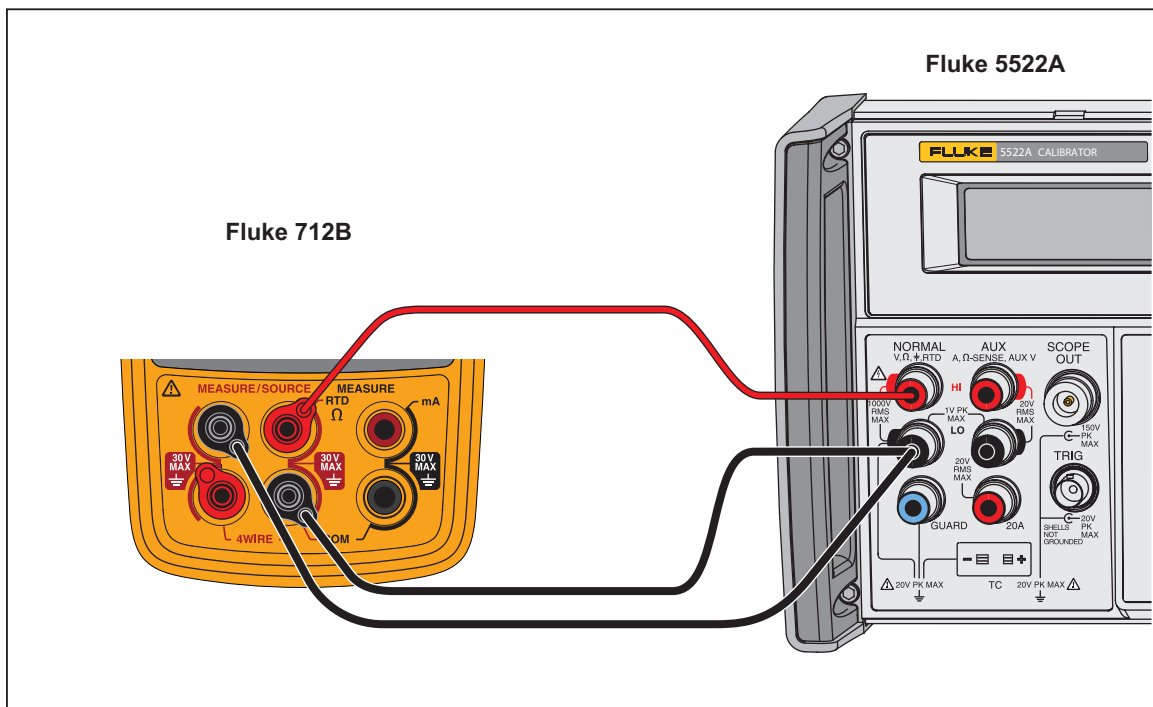

Figure 4. Verify 712B 3-Wire Ohms Measure
3. Make the connections between the 712B and the 5522A, as shown in Figure 4.